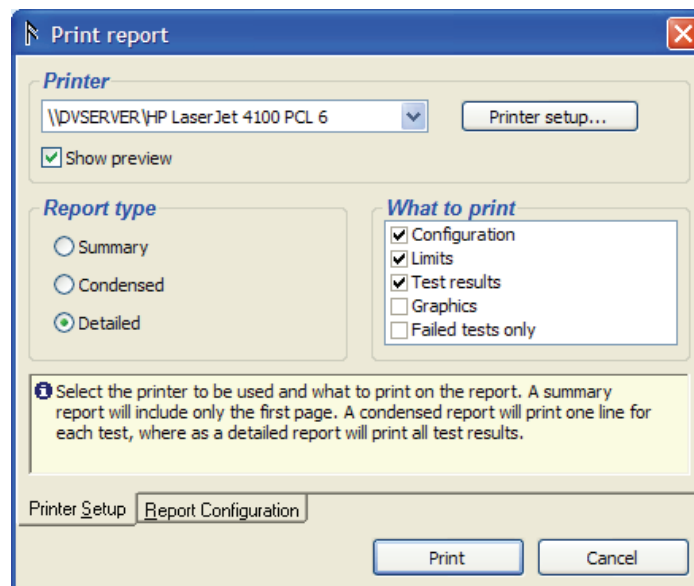

Figure 3-15. Print Report Window
1. With the Test Report open, click **File Print** or click the toolbar Print button to open the Print Report window shown in Figure 3-15.
To skip the preview before printing, uncheck the Show Preview checkbox in the print report window shown in Figure 3-15.